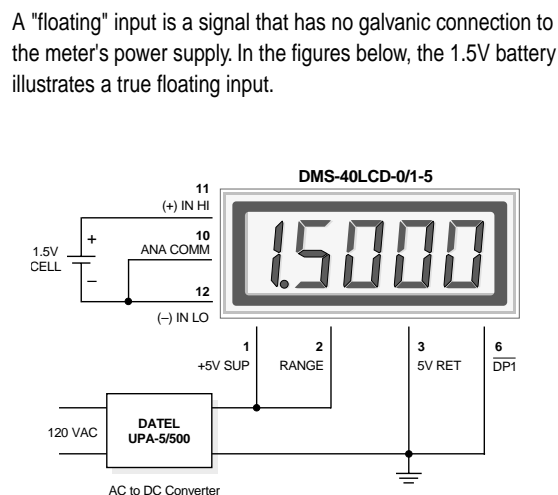
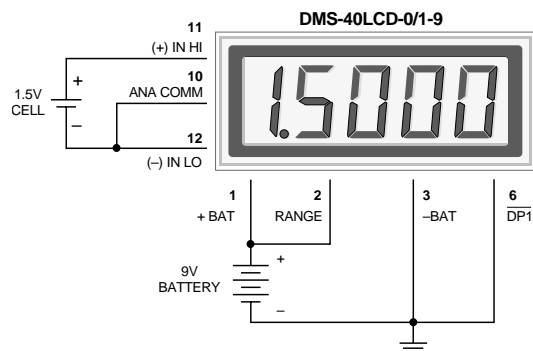

Figure 5. Floating Input Measurements
Figure 6. Floating Input Measurements
- 4. Floating Signal Source Measurements:** Floating signals can be measured using the circuits shown in Figures 5 and 6. Figure 5 uses a 5V-powered meter. Figure 6 uses a 9V-powered meter. Both figures show a DMS-40LCD-0/1 with pin 2 tied to pin 1 yielding a $\pm 2V$ input range. Connecting pin 10 (ANALOG COMMON) to (-) INPUT LO (pin 12) provides the reference point for the meter's input.